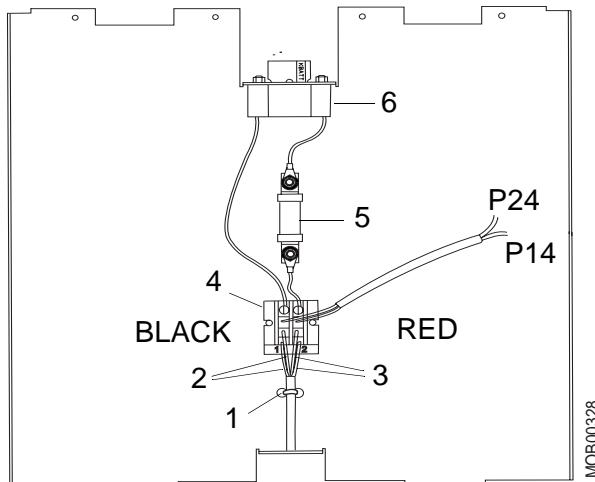

Fig. 5
- Cut the cable ties on the upper shelf (1/Fig. 5). Disconnect black cables (2/Fig. 5) and red cables (3/Fig. 5) from the connector (4/Fig. 5).
- Move the fuse (5/Fig. 5), connector (4/Fig. 5) and battery connector (KBATT) (6/Fig. 5) from the old upper battery shelf to the new upper shelf.
Be sure to connect the red and black cables right (see Fig. 5) otherwise the power conversion unit could be damaged.
Connect the black (2/Fig. 5) and red cables (3/Fig. 5) to the connector on the upper battery shelf and fasten with new cable ties.